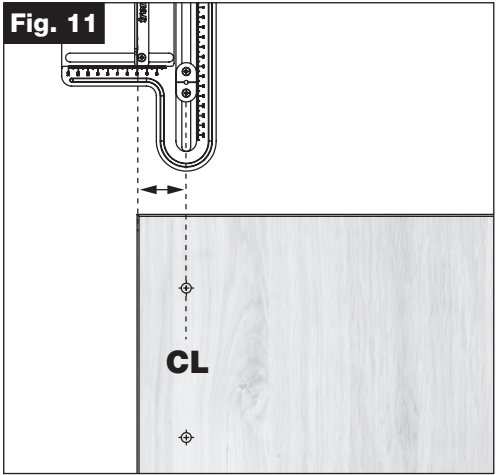

Fig. 12
- Loosen the Drill Guide M4 Machine Screws to allow the Drill Guides to slide freely (Fig. 12).